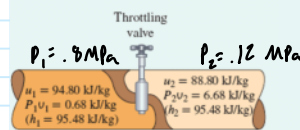

FIGURE 5-34
**Analysis** A capillary tube is a simple flow-restricting device that is commonly used in refrigeration applications to cause a large pressure drop in the refrigerant. Flow through a capillary tube is a throttling process; thus, the enthalpy of the refrigerant remains constant (Fig. 5-34).